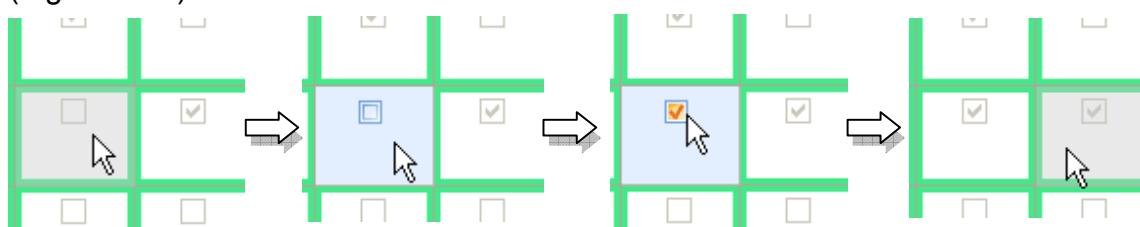

Figure 4.21 Flag the data manually
2. Select a well you want to flag → click same well to enter the edit mode → click once again to make a check → select other wells to exit the edit mode (Figure 4.21).